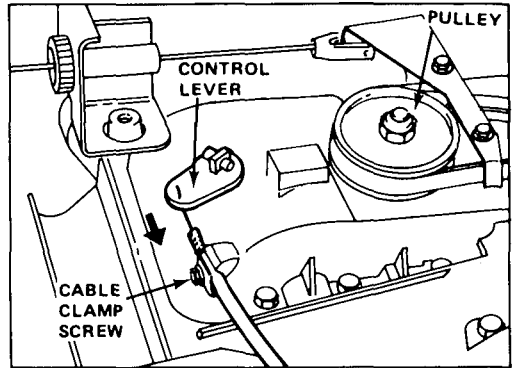

Figure 25
3. ADJUSTMENT (Fig. 25) — Loosen cable clamp screw until cable conduit slides. Push transmission control lever toward cable clamp screw and hold lever in place. Pull cable to remove slack and tighten clamp screw.
ward: Pulley (Fig. 25) should not rotate. If pulley does rotate, readjust for neutral: refer to step 3.